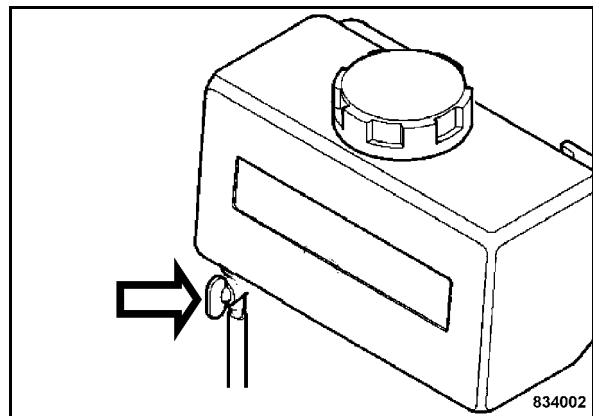

Fig. 25
- Set the handle of the shut-off valve (Fig. 25) in flow direction.